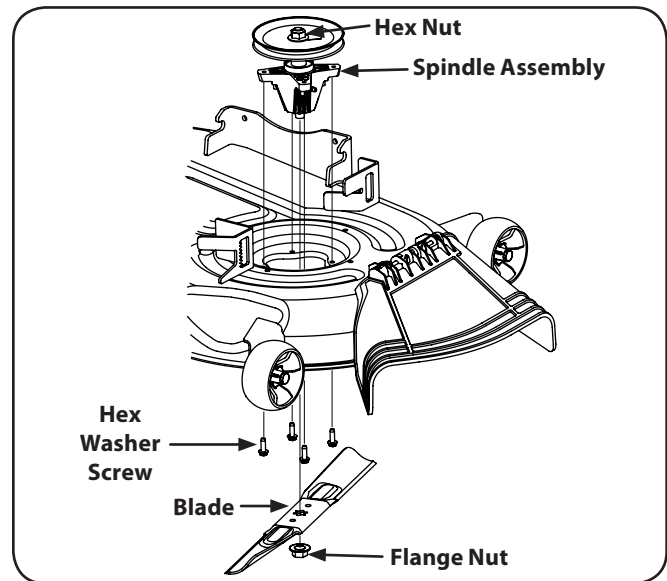

Figure 7-11
3. Use a wrench to hold the hex nut on top of the spindle assembly when loosening the flange nut securing the blade. A block of wood may be placed between the deck housing and the cutting edge of the blade to help in breaking loose the flange nut securing the blade. See Fig. 7-11.
4. Using a wrench or socket ratchet remove four hex washer screws. Remove the spindle assembly. See Fig. 7-11.